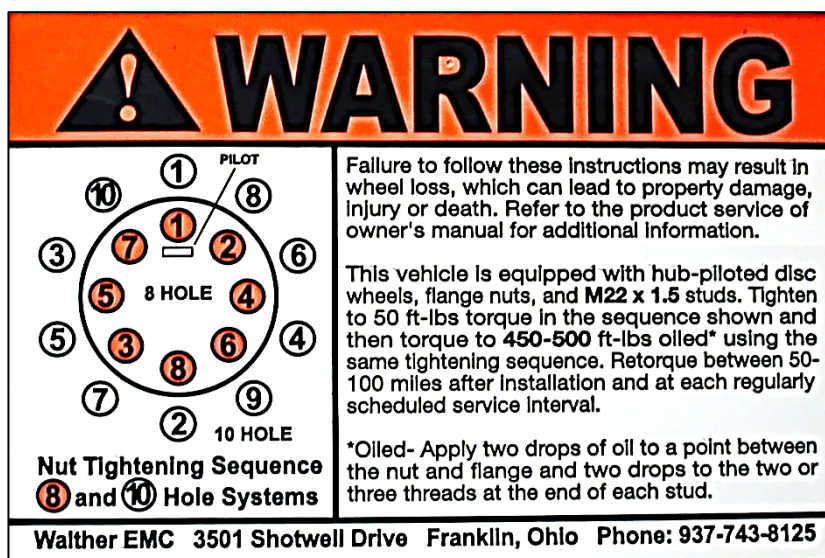

Figure 19
- 3) After tightening to 50 lb-ft, torque the wheel flange nuts in a star pattern to 450-500 lb-ft. See Figure 19. After the first 50 to 100 miles, re-torque again.